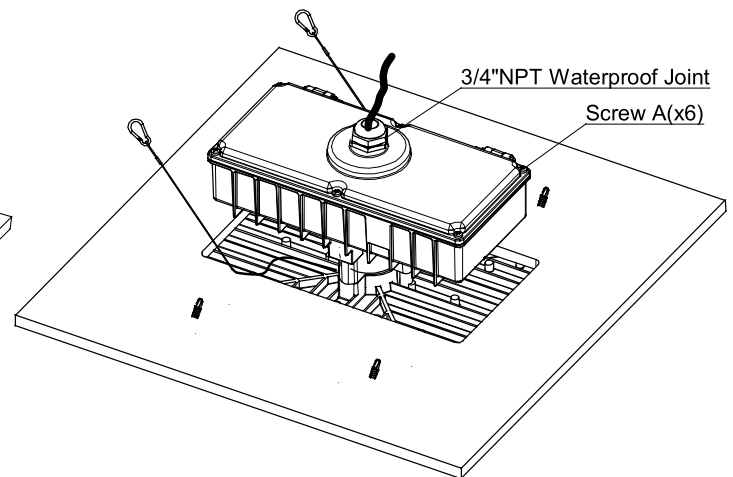

Figure 11
6. Replace and secure the Driver Box Cover with removed Screws A(6). See Figure 11.